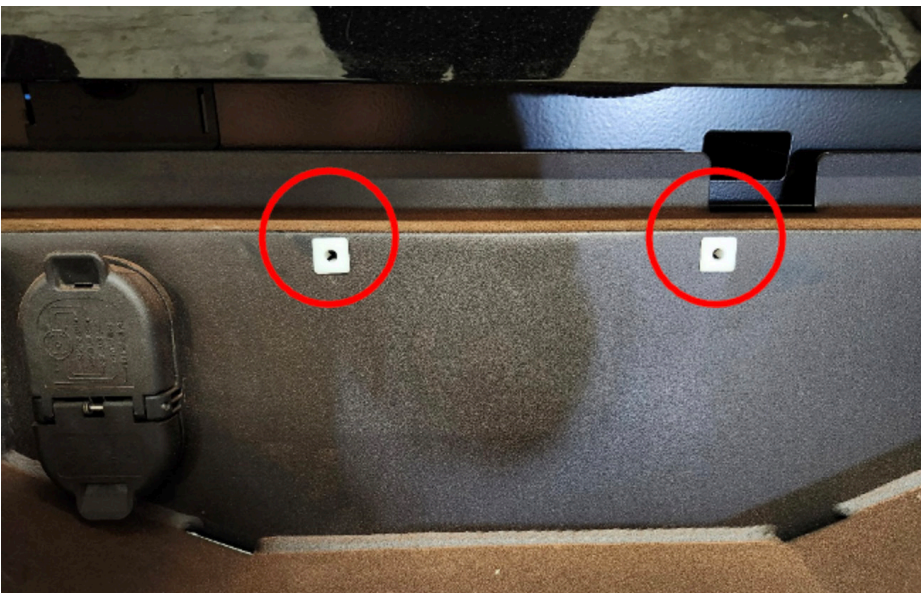

Figure 26
28. Plug in the sensor harness from step 1 and install the two (2) plastic license plate nuts (50494-HW) by pushing them into the bumper. (Figure 26)